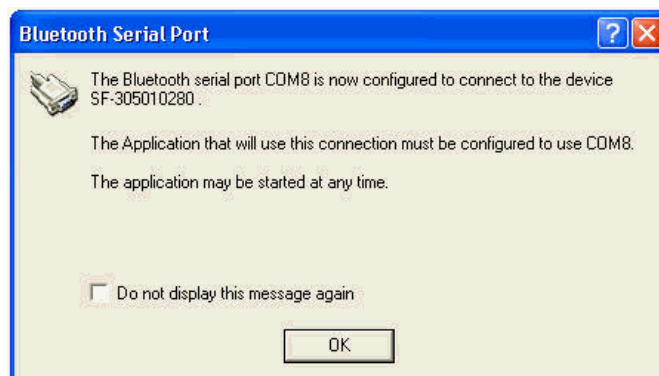

Figure 92: Bluetooth Serial Port
8. Double-click the Bluetooth serial port icon shown in Figure 91 to display the *Bluetooth Serial Port* dialog box (see Figure 92), which confirms the configured COM port.
15. Under *COM Port Settings*, select the appropriate COM Port (refer to Figure 92, above).